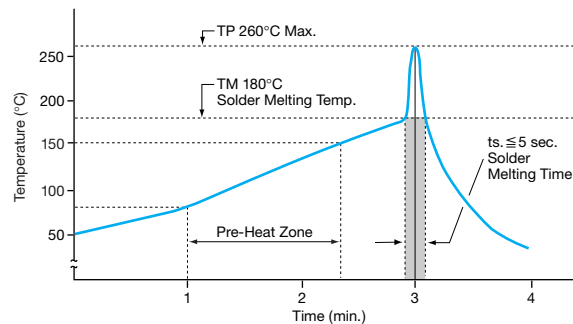

Figure 9: Recommended Flow Soldering Temperature Profiles For Through-Hole Trimmers.
2. Through-Hole Trimmers. Because the through-hole trimmer series encompass an extensive group of products, individual temperature profiles are not included under each through-hole trimmer series. The recommended pre-heating parameters for through-hole trimmers are 50°C to 150°C within a maximum exposure time of 3 minutes. The pre-heating and soldering temperature profile is specified in *Figure 9* under Soldering, Subsection 3.
3. Soldering Through-Hole Trimmers. Through-hole trimmers are soldered using flow (wave) equipment. Two popular methods for flow soldering are single wave or drag system. Since temperature profiles are not specified under each series of through-hole trimmers, follow the pre-heating and soldering temperature profile for through-hole trimmers specified in *Figure 9*.
Because there are many variations of board types and circuit designs with similar or mixed components, the parameters in *Figure 9* will serve as a guideline for user's production process. User must always test and verify pre-heating and soldering parameters as well as other phases of production before final production.